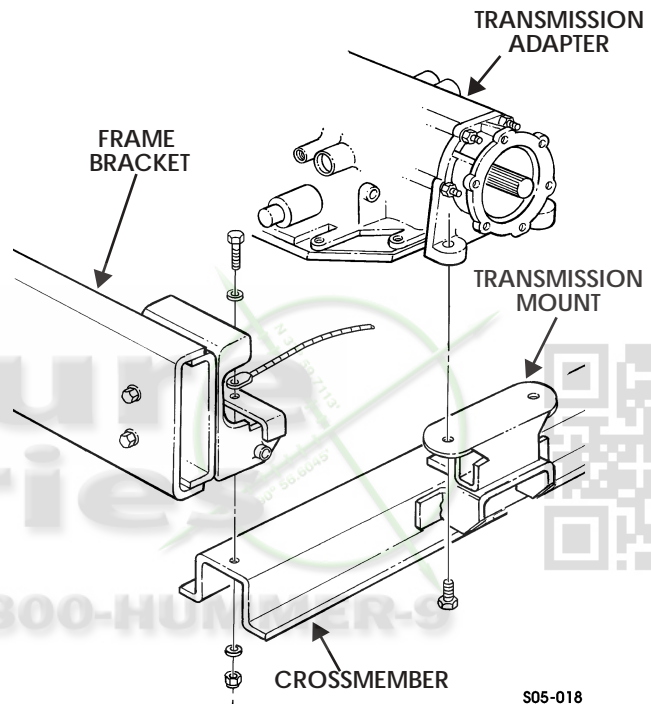

Figure 5-65: Crossmember on Frame Brackets
8. Install crossmember on frame brackets with two capscrews, washers, and locknuts. Tighten locknuts to 90 lb-ft (122 N•m) (Figure 5-65).